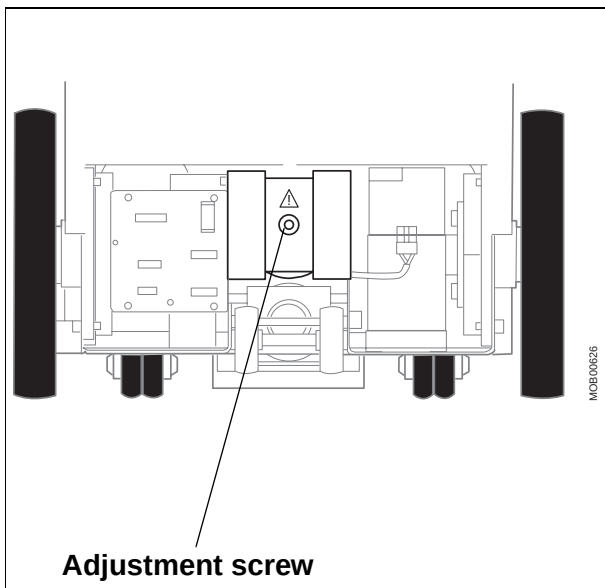

Fig. 6
- Adjust the arm system with the adjustment screw (Fig. 6) until it balances in all positions.